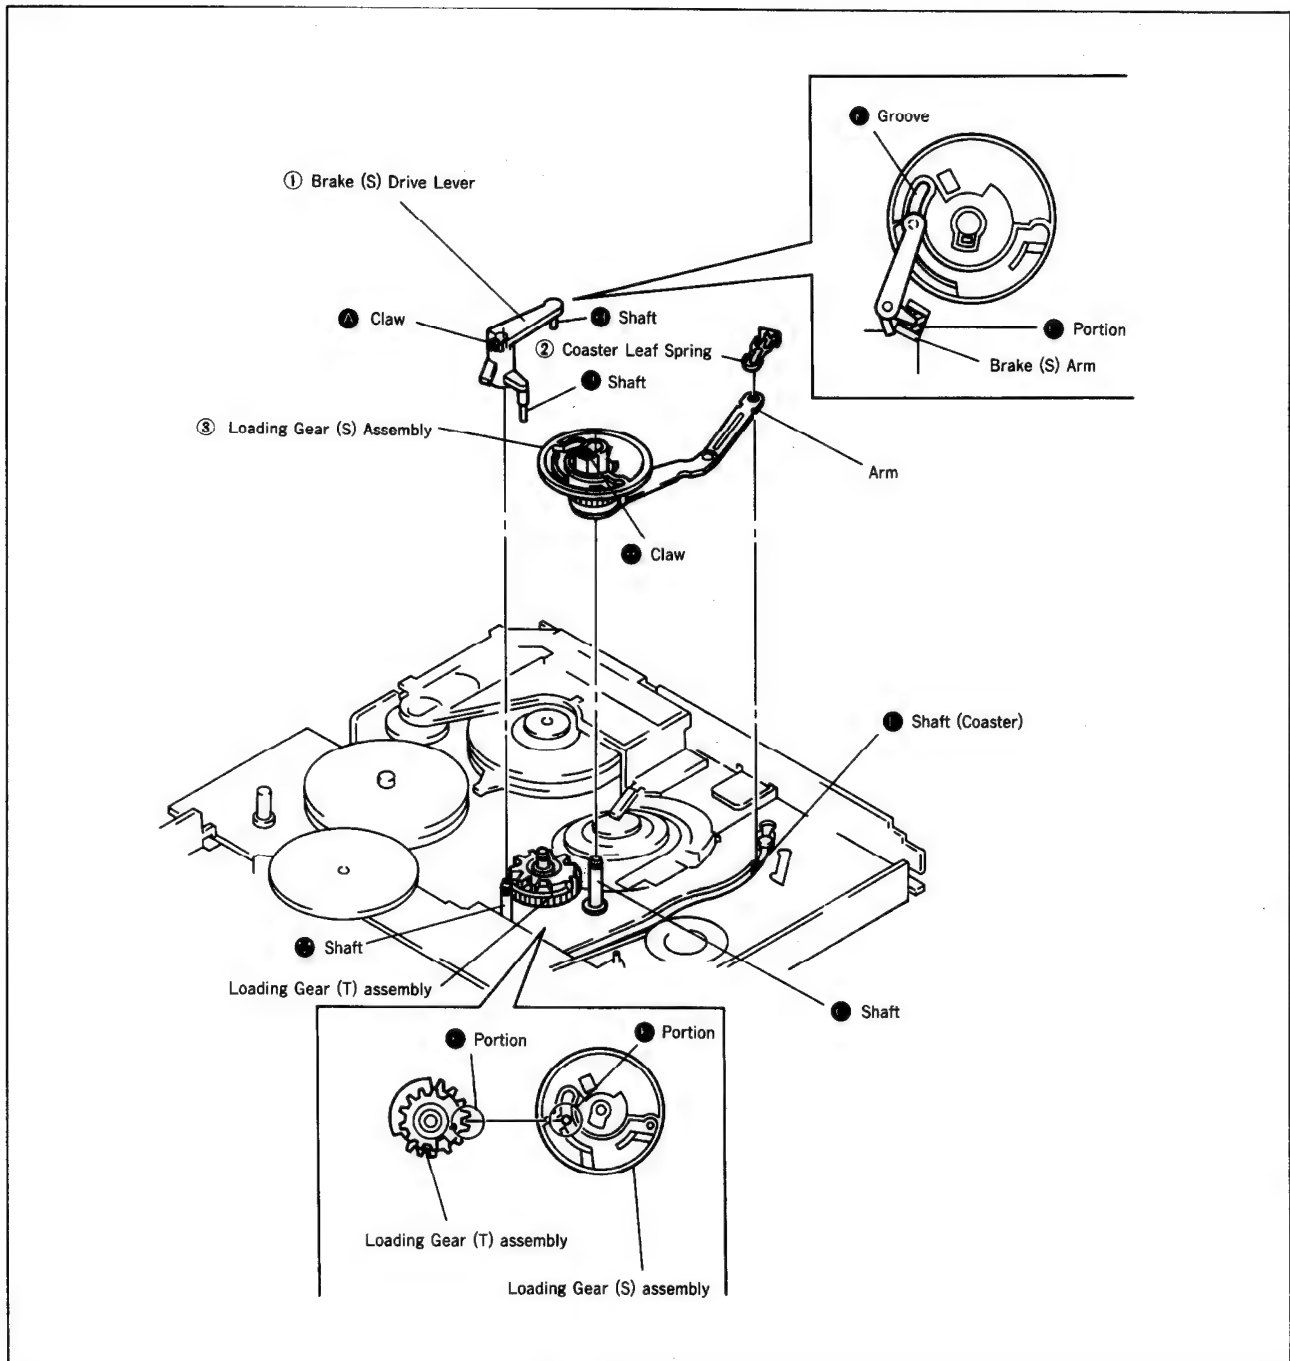

Fig. 24
4-18. LOADING GEAR (S) ASSEMBLY (Fig. 24)